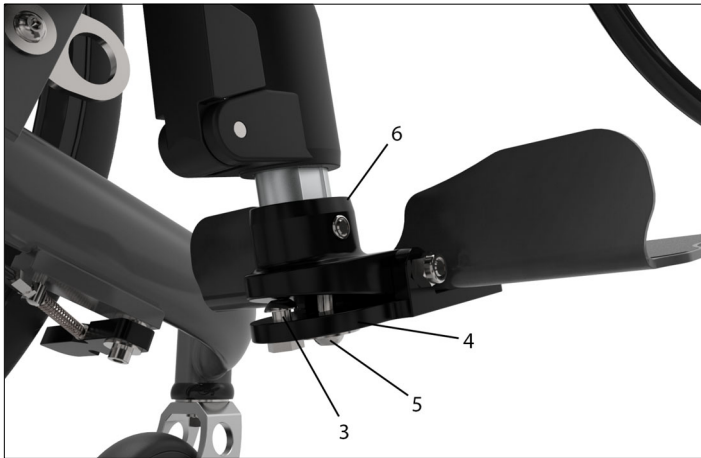

Figure 15: Adjusting the foot angle
1. Insert a round head screw (see Figure 15, item 3) into the adjustment plate (see Figure 15, item 4).
The foot plate can also be attached (with or without a changed ankle angle) by screwing a round head screw (see Figure 15, item 5) through the tilt plate into the foot plate block (see Figure 15, item 6).